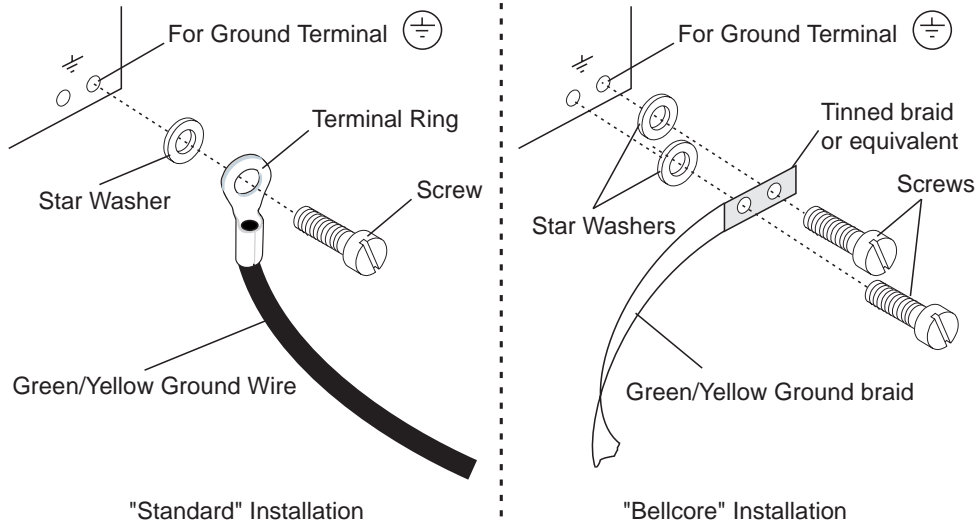

Figure 12. Connecting the Cable Ground Wire
3. Connect the cable ground wire (green/yellow) to the ground terminal lugs (Figure 12).
Figure 12 shows how to connect the green/yellow ground wire, for standard and 'Bellcore' installations.